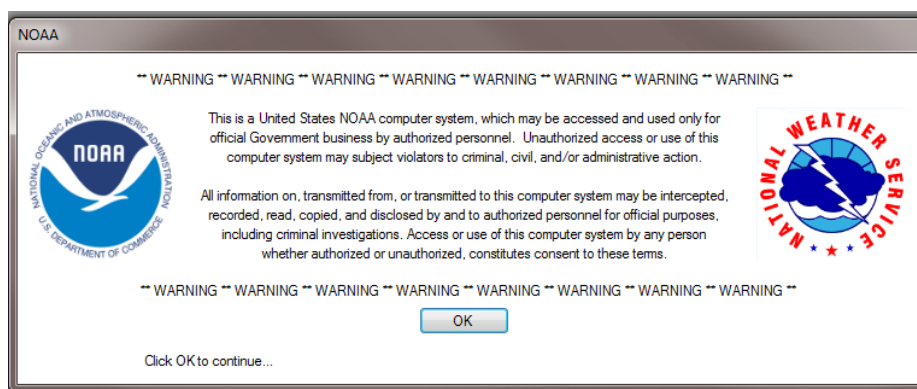

Figure B-12: NOAA Warning Window
2. Double-click on the **RWS.NET** desktop icon to start the RWS Software. The *NOAA Warning* window will appear (Figure B-12).